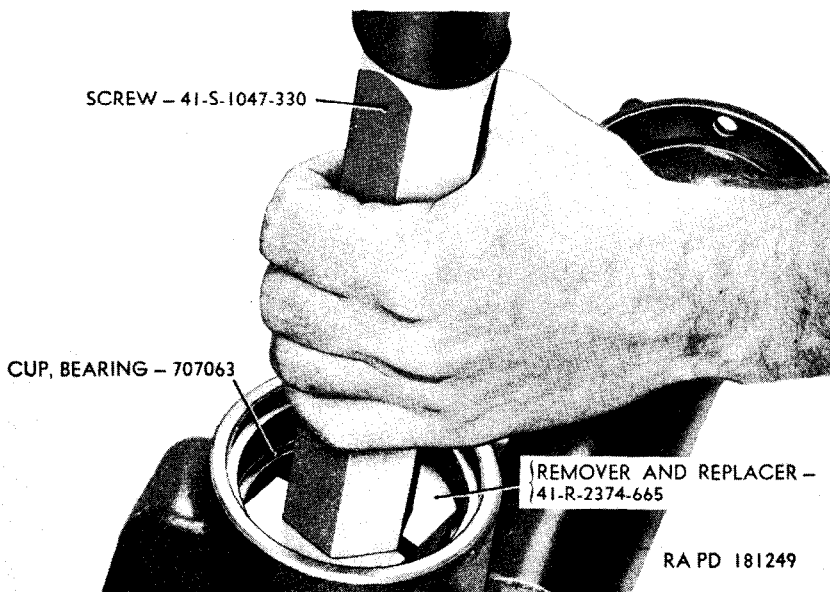

Figure 113. Installing front axle drive pinion outer bearing cup.
- (4) Install drive pinion outer bearing cup with remover and replacer 41-R-2374-665 and screw 41-S-1047-330 (fig. 113).